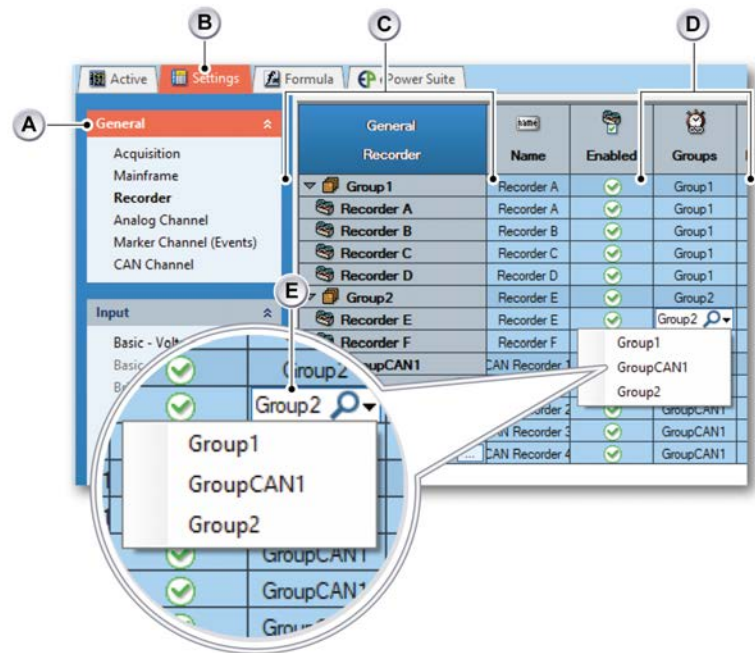

Figure 9.1: Example of assigning a recorder to a group
A measurement setup may consist of several **Recorders (C)** or **Acquisition Cards** distributed over one or more mainframes. Perception recorders or acquisition cards can be collected in **Groups (D)**. The user can select which cards should be in which group. All the cards in a group have the same sample rate but different groups may have different sample rates. To assign a recorder to a group, go to the **Settings (B)** sheet tab and click **Recorder** in the **General area (A)** (as shown in Figure 9.1). Double-clicking an entry in the **Groups (C)** column allows assigning this recorder to an existing group or by typing a new name, create a new group.